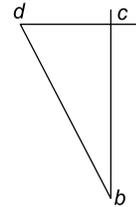

Figure 6.13
The reaction  $R_2$  can be determined by considering joint (2), i.e. joint  $BCD$ , as shown in Figure 6.13, where the vector  $bc$  represents the unknown reaction  $R_2$  which is measured as 2.18 kN.